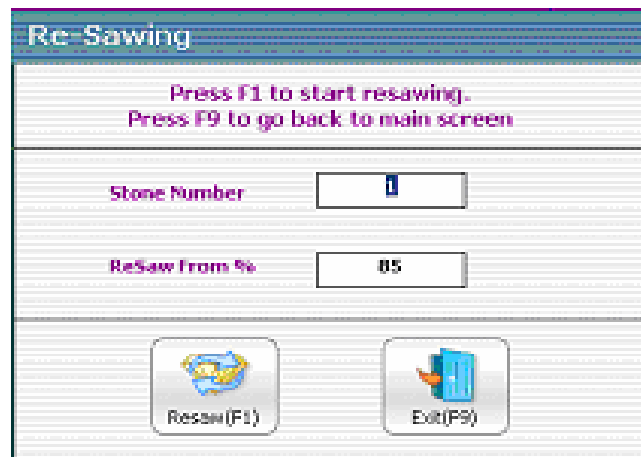

Figure 19: Re-Sawing
- ii) Press **F2 key** then we get window as shown in **Figure 19**.